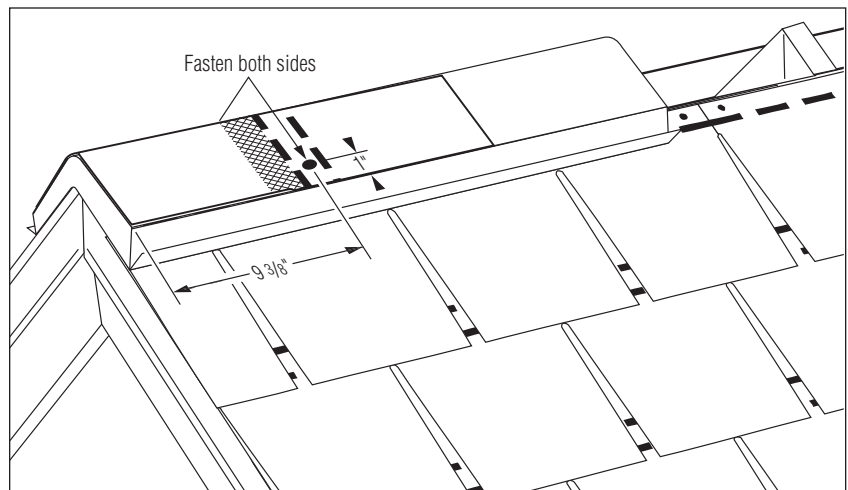

Figure 14-18: Ridge cap installation – First Course.
Then apply a full 18" x 12" (455 mm x 305 mm) piece over the starter, bending the shingle along its centerline and forming it into place over the hip or ridge, flush with the bottom and side edges of the starter shingle. Fasten with two (2) nails as shown in the fastening section. (See Figure 14-18)